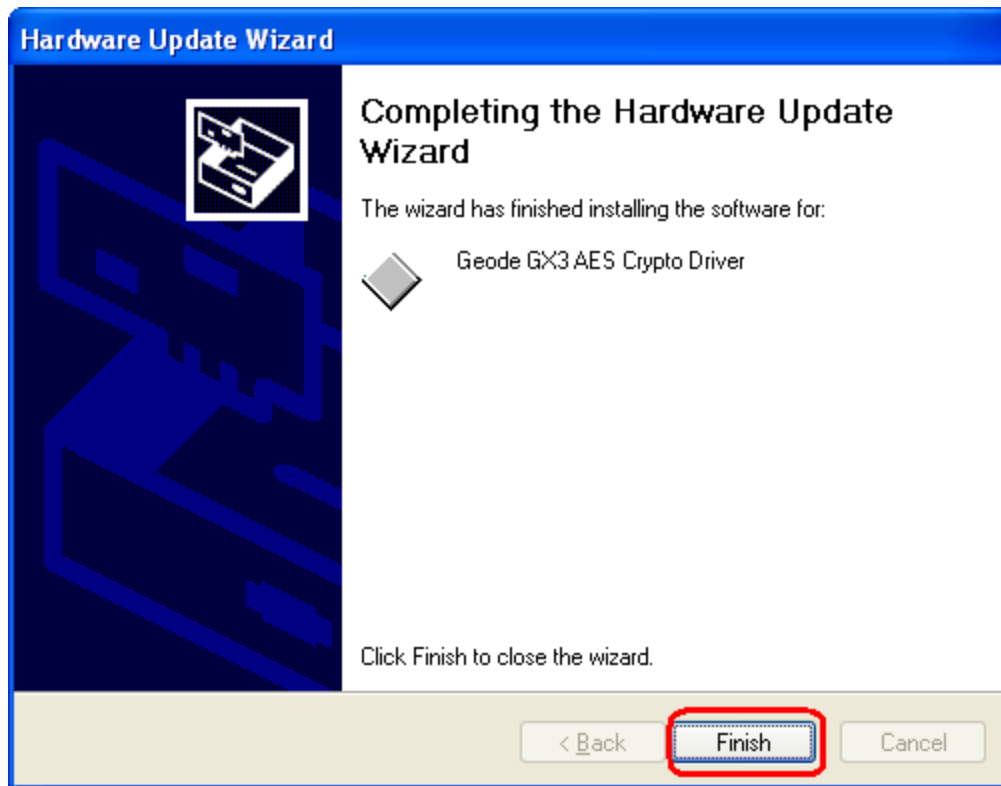

Figure 7-40: Entertainment Encryption/Decryption Controller Driver Installation Complete
Step 12: When the driver is installed, the screen in **Figure 7-40** appears.
Step 13: Click the Finish tab in to complete the **Figure 7-40** installation.